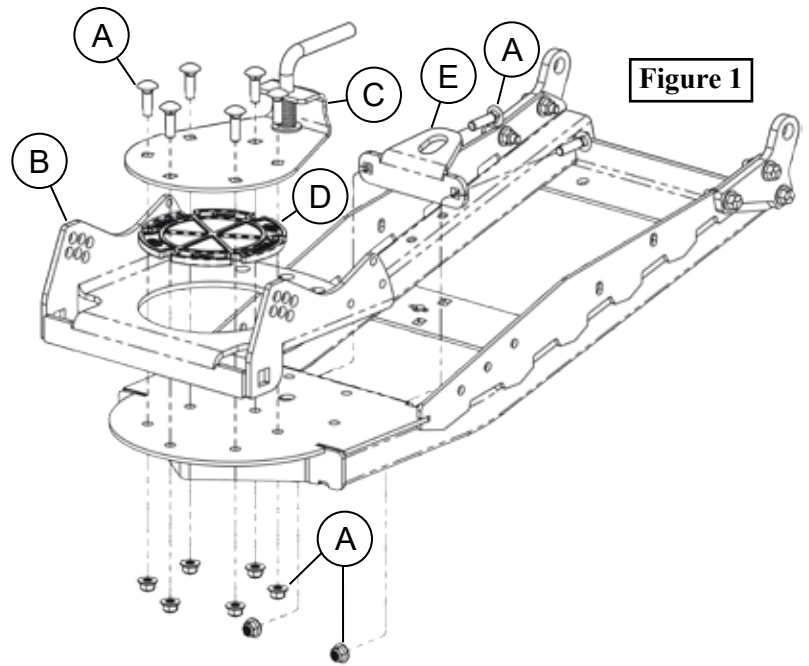

Figure 1
1. Unbolt hardware (A) and remove cradle (B), Lift latch assembly (C), pivot bushing (D), cable hook bracket (E) shown in **Figure 1**.